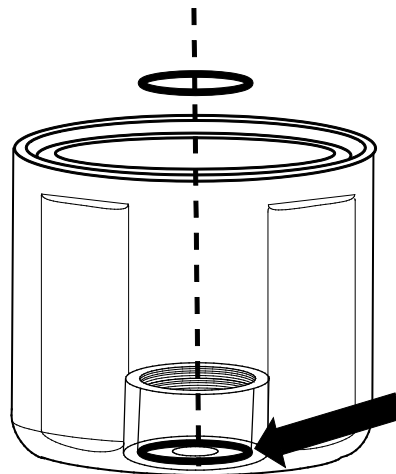
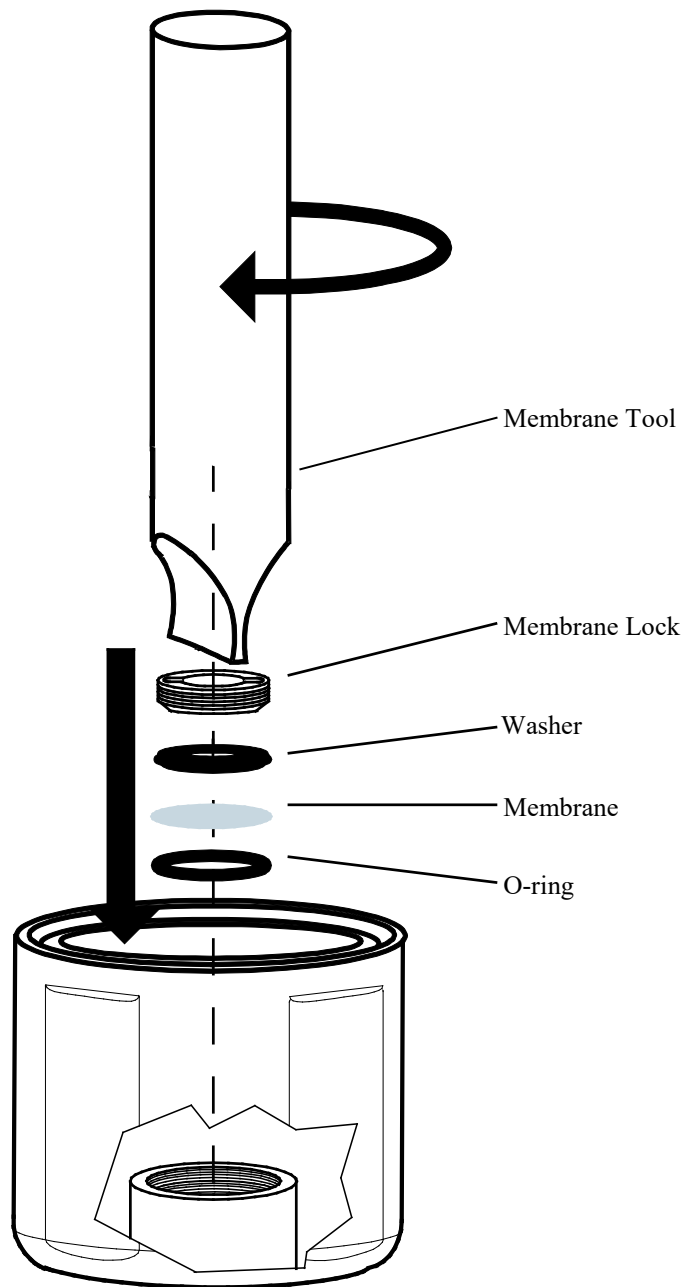

FIGURE 8-4. Proper O-ring placement
FIGURE 8-5. Installing membrane
- Replace the membrane and its O-ring by first placing the new O-ring at the bottom of the membrane cavity (see FIGURE 8-4). Remove the paper backing from a new membrane and place the new membrane on top of the O-ring, and place the washer on top of the membrane. Using the membrane tool, install the membrane lock on top of the washer as shown in FIGURE 8-5. Make sure the cap is upright (not sideways) when securing the membrane lock to the washer.